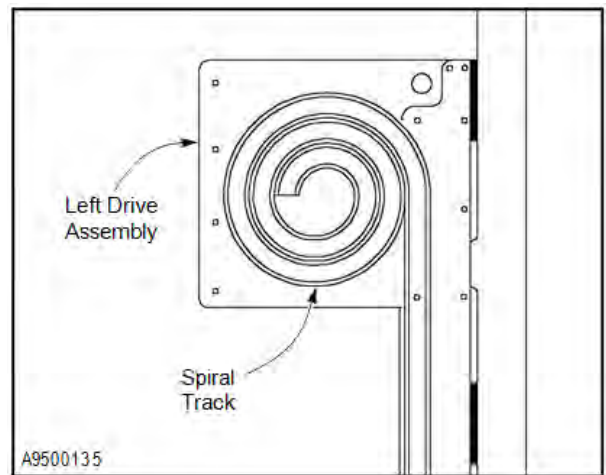

Figure 24
6. Inspect the hardware used to attach the spiral track sections to the left and right drive assemblies. Tighten the hardware as required. Replace any missing or damaged hardware. (See Figure 24.)